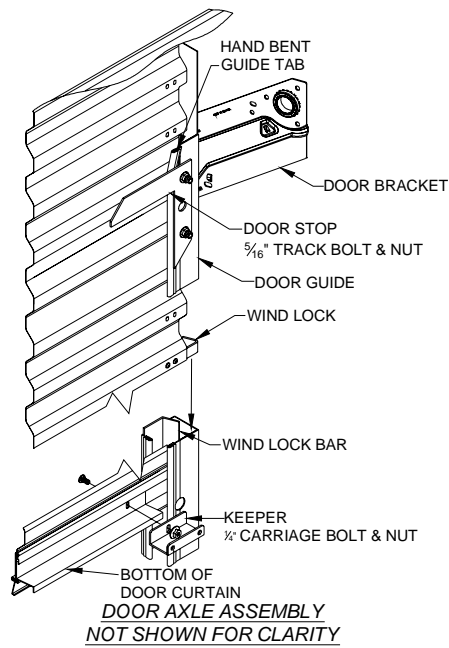

Figure 9.
6.3 Guide the door curtain carefully into the door guides, moving doorstops aside, to allow bottom to pass, and pull it down to approximately waist level. See Figure 9.
7.1 Attach the two keepers to the bottom interior edge of the door with one (1) 1/4" carriage bolt and whiz nut in each keeper. See Figure 9.
7.2 Tighten door stops installed in step 5.2, making certain track bolts are seated in guides. See Figure 9.